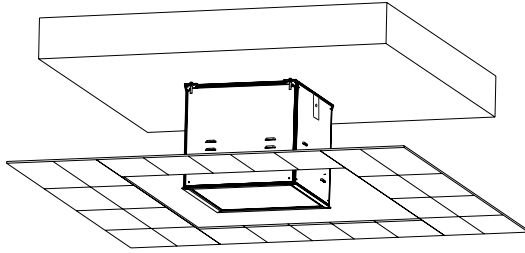

figure 5
3. Figure 5 - install the projector lift and fasten. The projector's low frame must align with the ceiling: